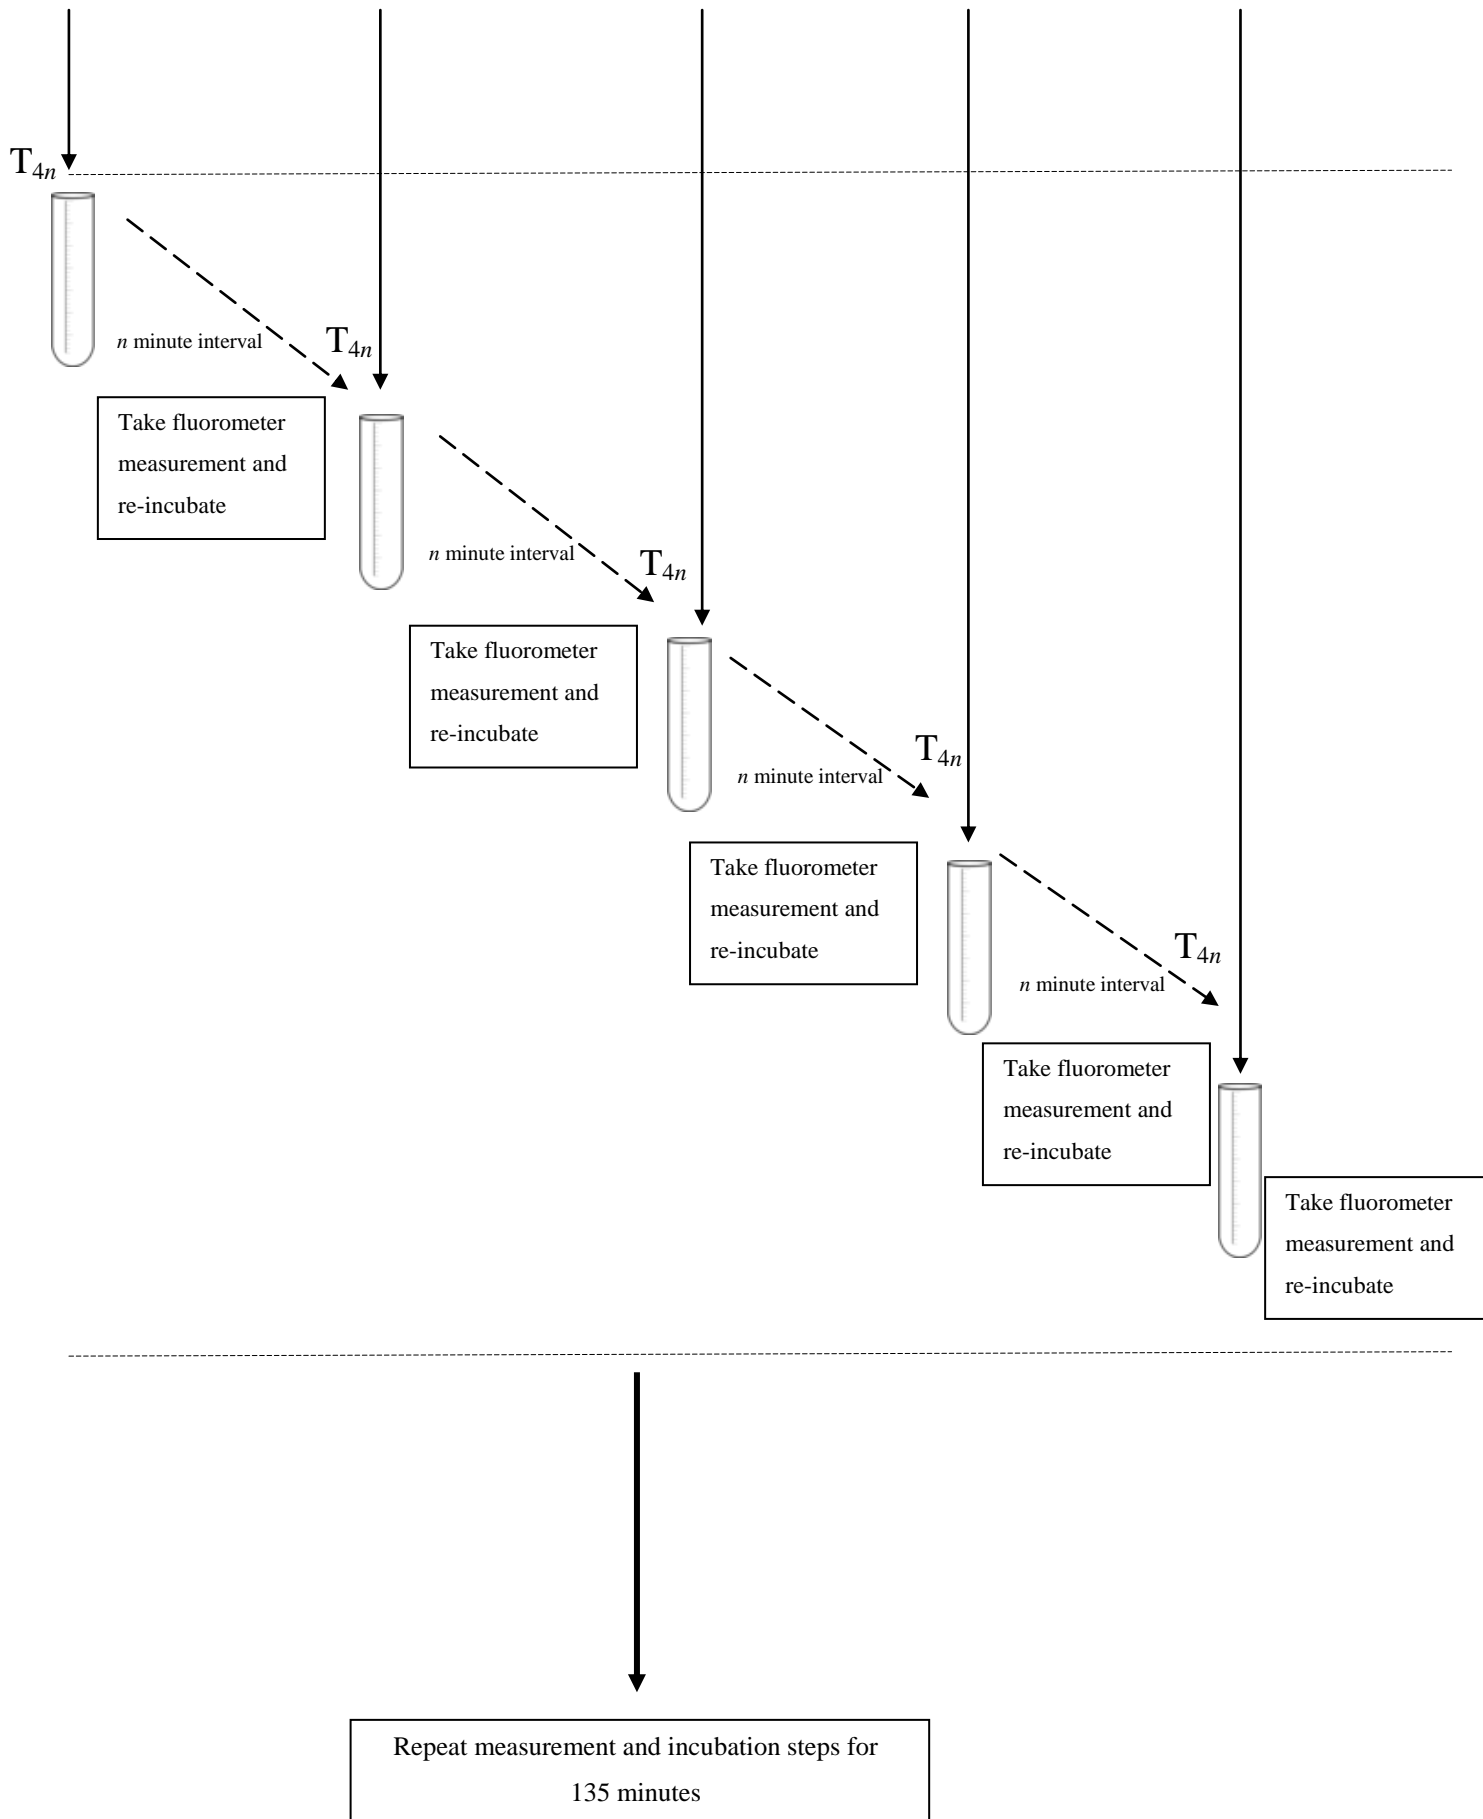

Fig 1: Schematic diagram of the materials and methods for the characterisation of the theophylline riboswitches
2. Take fluorometer measurements for each theophylline concentration at set time increments (See Figure 1) and re-incubate afterwards at 37°C until the next measurement.